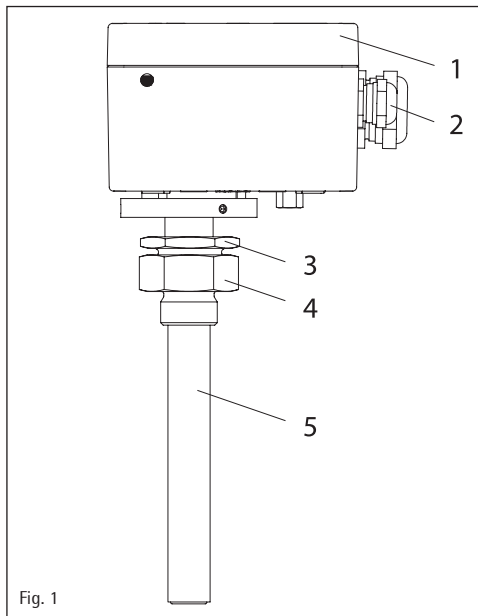

Fig. 1
Fill the thermometer pocket with approx. 50 ml of oil at room temperature. To assemble, screw the bottom nut of the double thread (figure 1, item 4) into the thermometer pocket. Insert and straighten the immersion tube (figure 1, item 5) of the ZT-F2.1 transformer temperature transmitter. Tighten the double thread (figure 1, item 3).
Unscrew the cover of the ZT-F2.1 transformer temperature transmitter (figure 1, item 1). Unscrew the M16x1,5 pressure